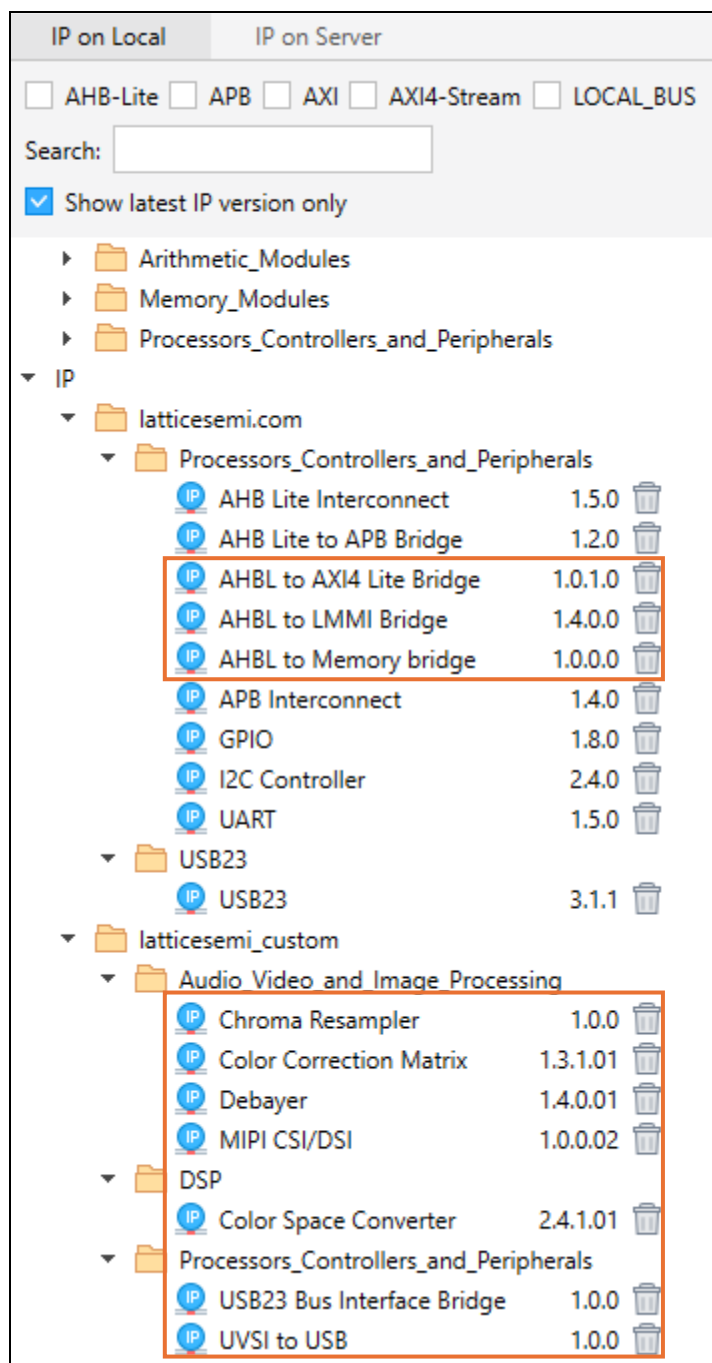

Figure 5.12. IPs Installed from Files
- f. After completing the IPK installation, the IP mentioned above should be available under IP on Local, as shown in Figure 5.12.